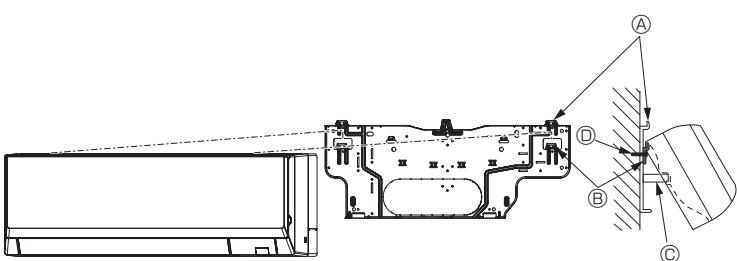

Fig. 3-13
- When the indoor unit cannot be hanged and lifted up with the regular hook (the dimension of 2.1. ⑤ (the clearance between the ceiling and the unit) is 75 mm or less), hang the unit on the lower hook for left piping. (Fig. 3-13)
(Fig. 3-13)